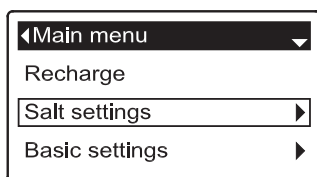

FIG. 89
1. From any of the rolling status screens, press the SELECT (O) button to display the **Main menu**.
2. Press the DOWN (▼) button to scroll through the menu options until **Salt settings** is highlighted (See Figure 89).